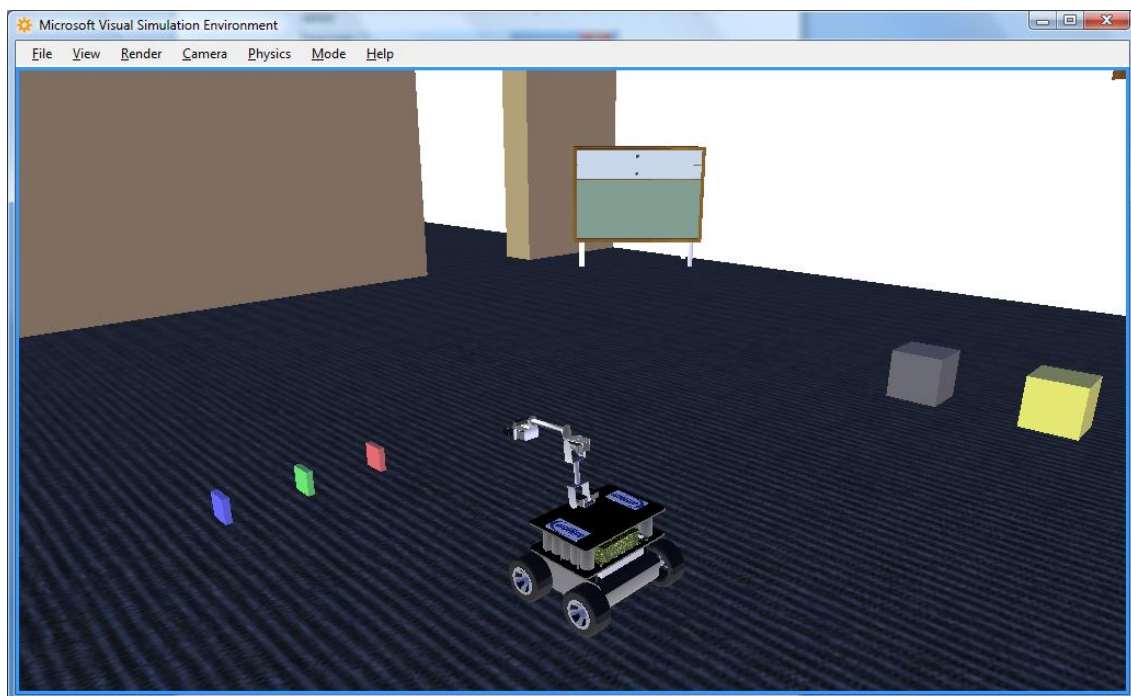

Figure 2: The ClassPackEnvironment simulation will render a simulation scene in which the CoroBot is located in a two room office.
3. Once loaded, the simulation should appear with the CoroBot located in an Office Environment (see Figure 2).